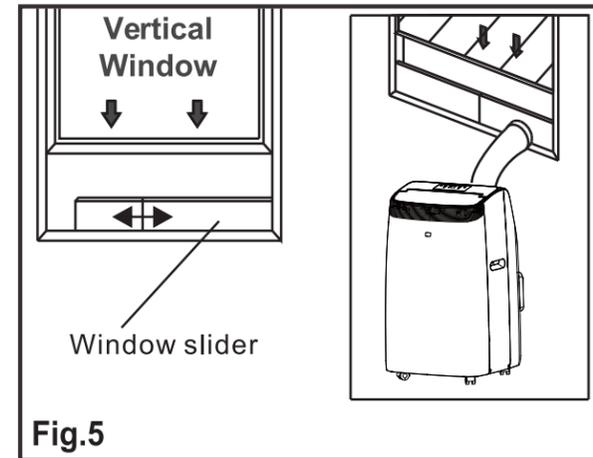

Fig.5
5. Affix the hose outlet into the window slider kit and seal. (Fig.5 & 6).